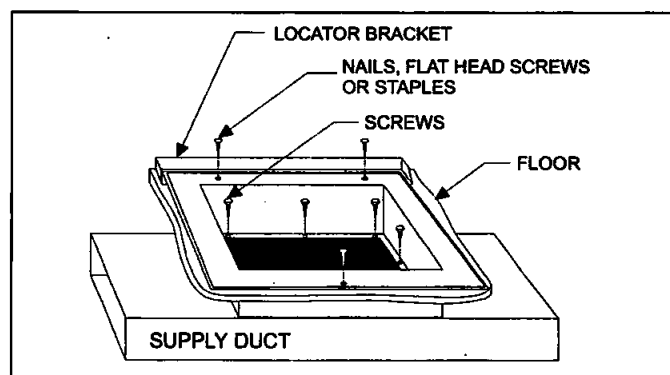

FIGURE 9: Duct Connector Screw Attachment
3. Place locating bracket (supplied with the duct connector) to the back edge of the floor opening. See Figure 9.
1. Make floor cut out as shown in Figure 9.